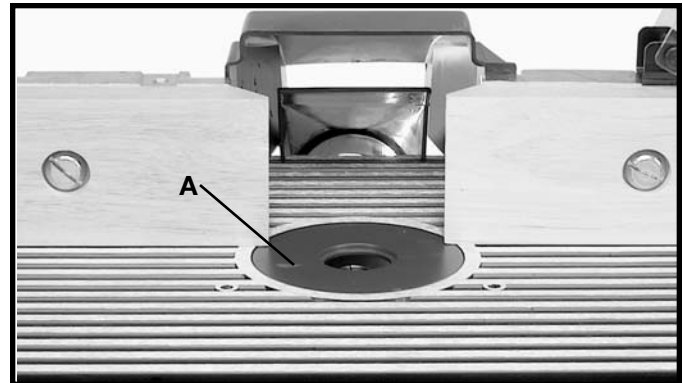

Fig. 11
The table insert (A) is assembled in the table, as shown in Fig. 11.